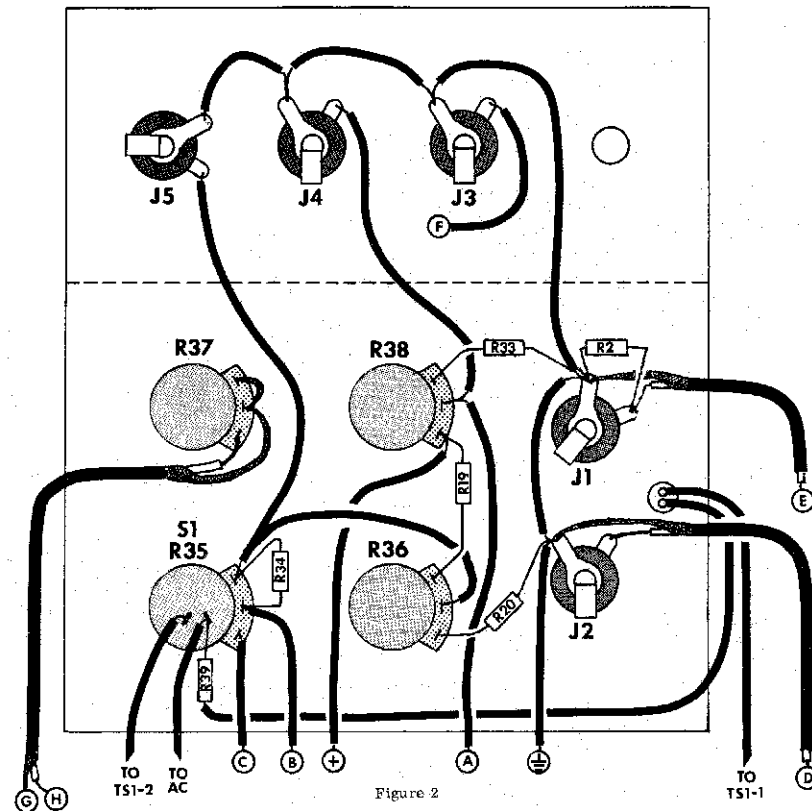

Figure 2
Figure 2 is a drawing of the inside of the top portion of the case. The dotted line in the drawing represents the fold line along the rear edge of the case. The front edge of the case is not shown. The potentiometers that will be mounted in the following four steps can be identified as follows: The 5K linear taper pot is marked with the legend 5K  $\Omega$ , The 75K reverse audio taper pot is marked with the legend 75K  $\Omega$ , the 500 K audio taper pot w/switch is the only potentiometer with a switch on the back and the 500K linear taper pot is the remaining control.
- ( ) Mount the 500K potentiometer R38 in the position shown in figure 2. Use two 3/8 inch nuts, one behind the front panel as a spacer and the second on the front side of the panel to secure the pot. Adjust the rear nut so that none of the threaded shaft of the control is exposed when the front nut is tightened down. This will allow the control knob which will be mounted in a later step to seat as closely as possible to the panel. Orient as illustrated.
- ( ) In a similar manner mount the 5K linear potentiometer R36 in the position shown in fig. 2. Orient as illustrated.
- ( ) In a similar manner mount the 75K reverse audio taper potentiometer R37 in the location shown in figure 2. Orient as illustrated.
- ( ) In a similar manner mount the 500K audio taper potentiometer with S1 attached in the location shown in figure 2. Orient as illustrated.
- ( ) Using the nut provided mount open circuit phone jack J1 in the position shown in figure 2. Place the flat washer included with the jack between the nut and the front panel. Orient as illustrated.
PROCEED TO THE CONNECTIONS BETWEEN THE FRONT PANEL AND BASE-PLATE. ( see figure 2 )
- ( ) Cut both of the leads on the 47K resistor R2 ( Yellow-violet-orange ) off to a length of 1/2 inch. Connect one of each of these leads to each of the solder lugs on J1 as shown in figure 2. Do not solder either of these connections at this time.
Carefully fold the wires connecting the circuit board to the front panel controls into the top part of the case until the bottom panel is flush with the cut in the wood ends. Note that when the unit is completely assembled the transformer T1 is next to the rear edge of the case. Be extremely careful of any shorting between the front panel jacks and controls and circuit board components (there should not be any problems if the jacks and controls are oriented as shown in figure 2.)